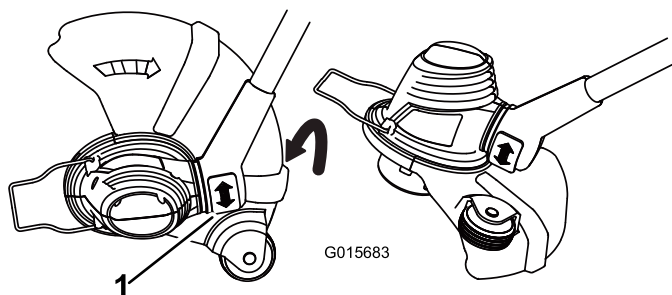

Figure 9
- To adjust the orientation of the base, press down on the rotator button located at the base of the shaft, then move the base to face the desired direction (Figure 9).